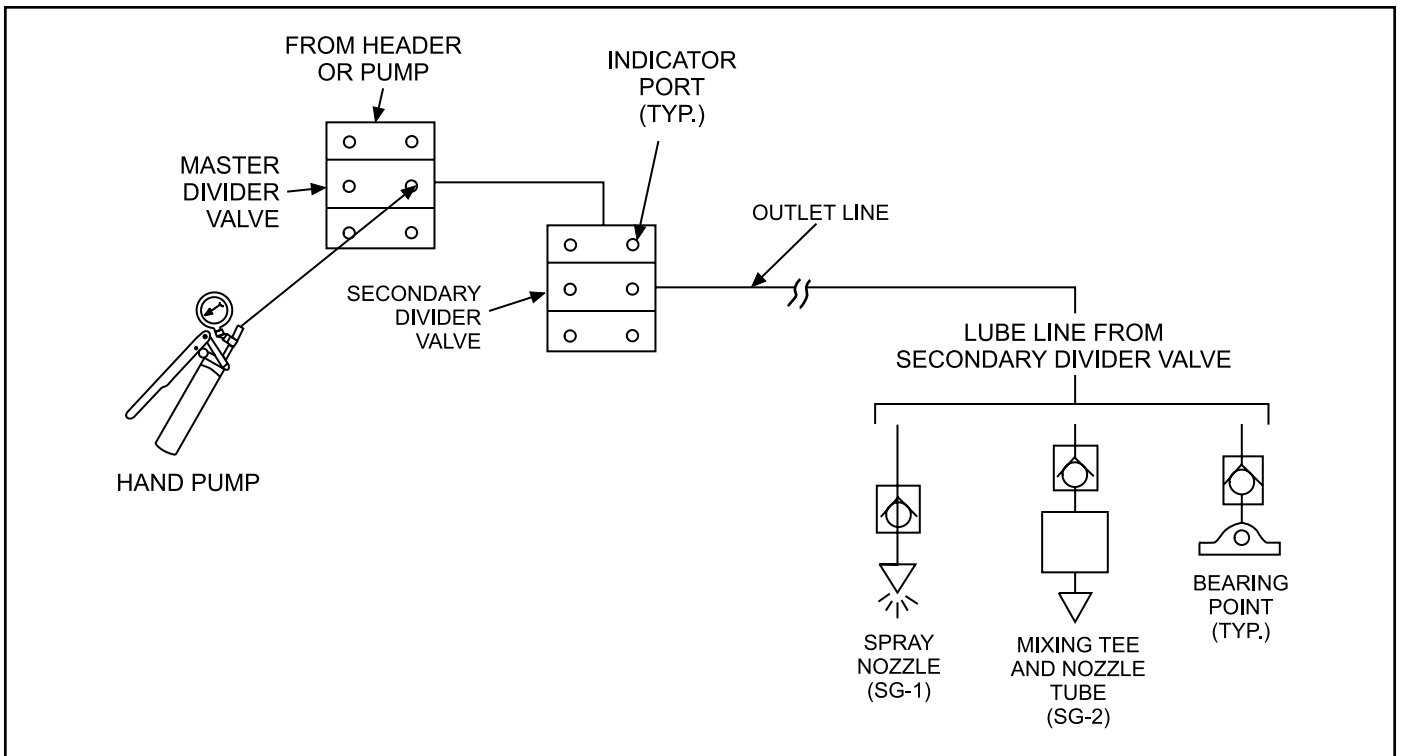

Figure 3-2. Bleeding Secondary Divider Valve
3.2.3.2 When all supply lines have filled with oil per paragraph 3.2.3.1, the secondary divider valve itself may be bled. Refer to Figure 3-2 during the following procedure: